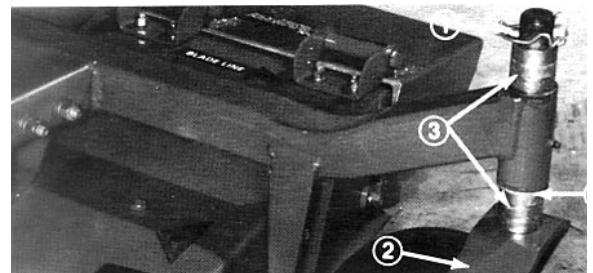

Figure 2
2. Squeeze the back of the wire and rotate wire on the lynch pin. Pull the pin out of the caster spindle. Slide spacers onto the caster spindle to get the desired height of cut (Fig. 2 and 3). Then slide the washer onto the spindle.
3. Push the caster spindle through the caster arm. Slide any remaining spacers onto the spindle (Fig. 2 and 3). Install lynch pin to retain parts in place.